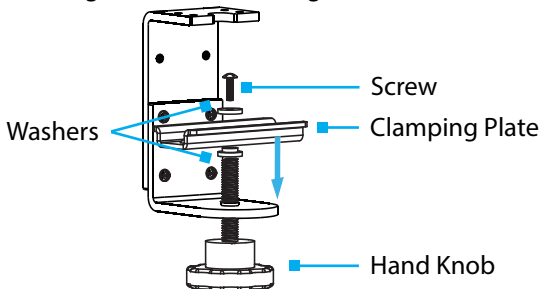

Figure 9
2. Install the **Screw** through the **Washer**, **Clamping Plate**, **Washer** and onto the **Hand Knob**. Use a **Phillips Head Screwdriver** to tighten the **Screw**. (Figure 9)